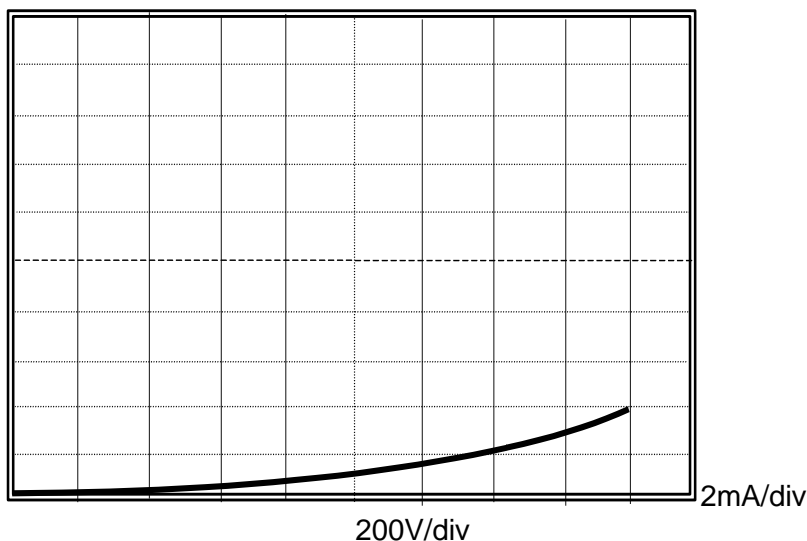

Figure 5: Schematic of a typical blocking leakage current waveform
10. Slowly turn the **Variable Collector Supply** dial to increase the blocking voltage. If the device still blocks voltage, the leakage current waveform should be less than 20mA as shown in figure 5, otherwise the device is likely to fail blocking.